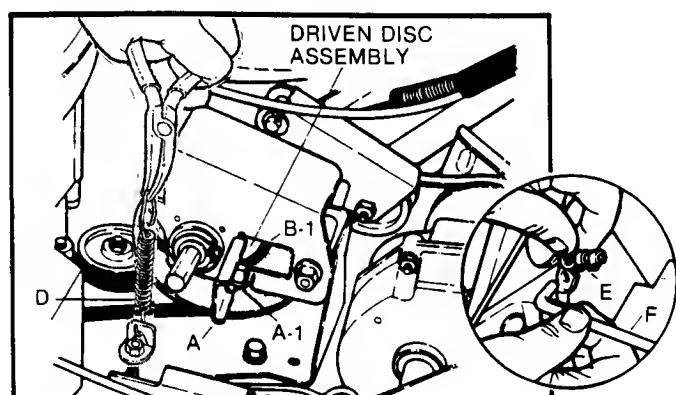

FIG. 14 -DRIVEN DISC ASSEMBLY
- Grease on drive disc (C)-causing slippage.
- Broken or disconnected DRIVE SPRING (D) (also refer to FIG. 14).
- Driven disc rubber ring (B-1) worn - not contacting drive disc (C) properly.
- Driven disc (B) out of adjustment
DRIVEN DISC REPLACEMENT: If the driven disc rubber ring (B-1) is found to be badly chunked or worn down to within **1/16"** of the metal rim of the driven disc hub (B), it must be replaced. Remove the clip (E) at end of speed control rod, and then turn the transfer rod (F) to a upright (vertical) position and detach from the connector (A) (FIG. 14 & 15). Unhook drive spring (D) (use needle nose pliers) and slide the driven disc assembly off hex-shaft.